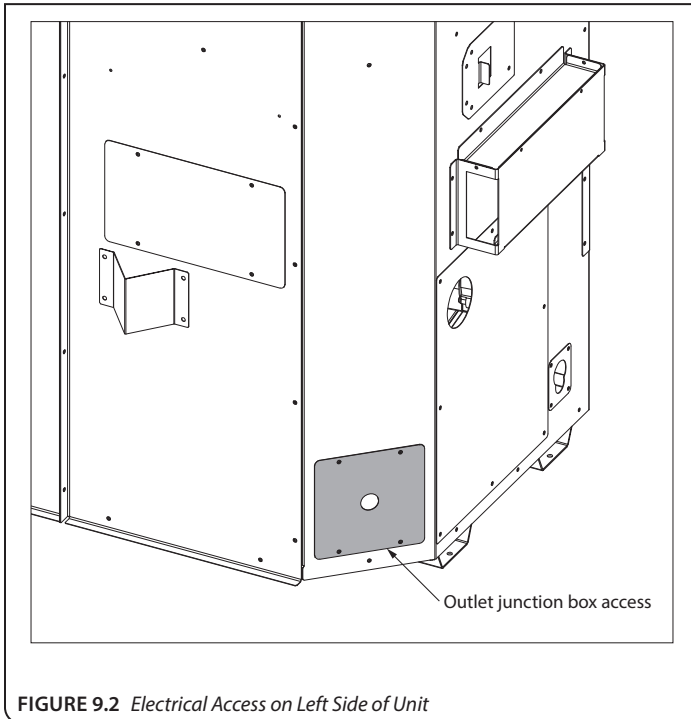

FIGURE 9.2 Electrical Access on Left Side of Unit
Remove the (4) screws securing electrical access cover to the firebox outer shell for access to the junction box (FIGURE 9.2). Reinstall when finished.